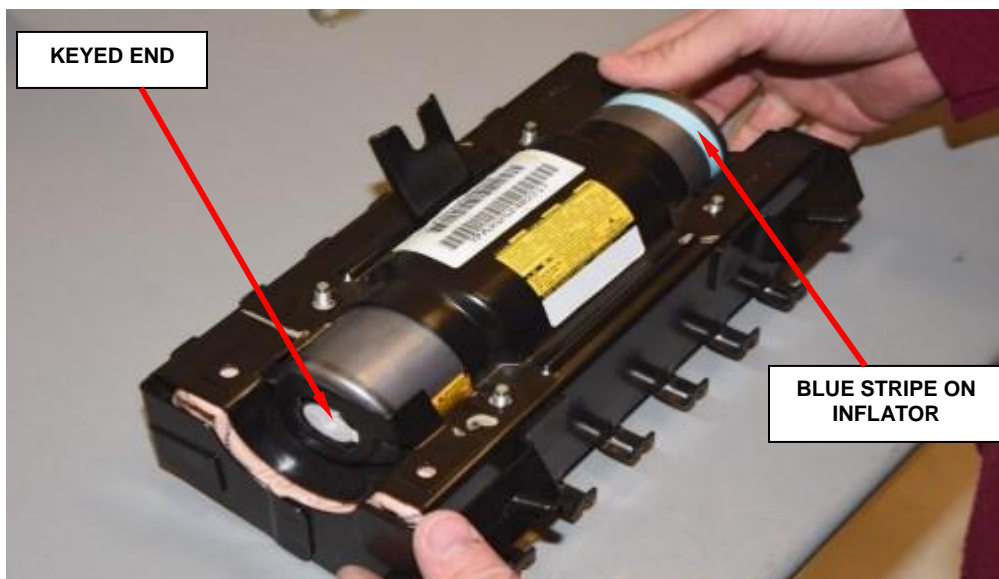

Figure 119 – Insert Inflator (Shown with Cushion Installed)
- i. Slide **new** inflator into housing. The keyed end is inserted first, therefore the blue stripe on the inflator will be located at the open end, as shown (Figure 119).